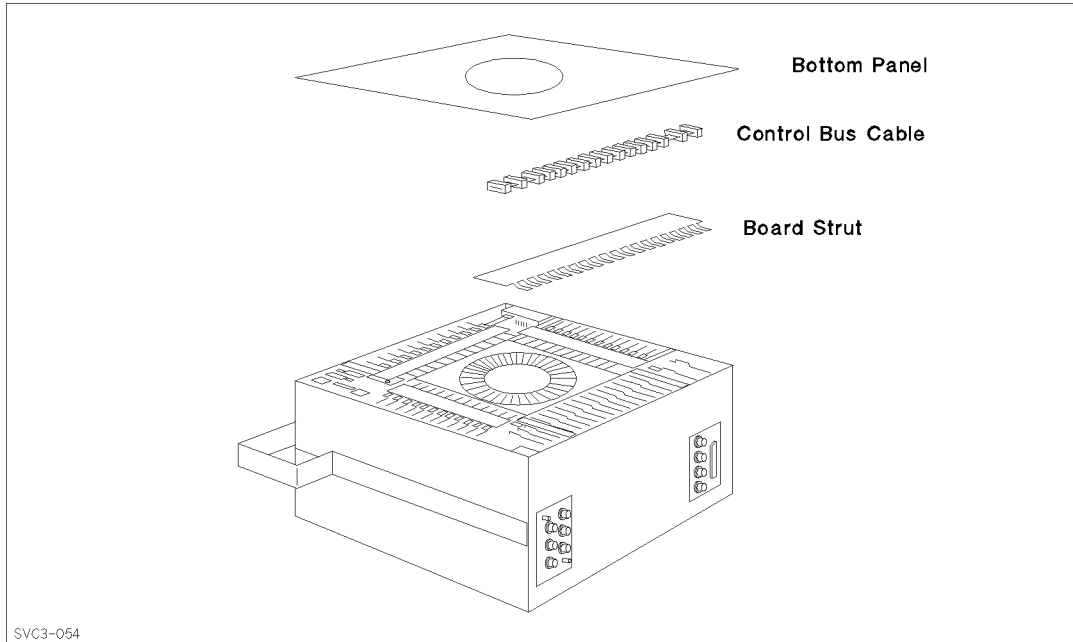

Figure 3-22. Removing the Bottom Panel of the SWM
1. Remove the bottom panel of the SWM (see Figure 3-22).
1. Remove the bottom panel of the 48-pin SWM (see Figure 3-22).
4. Remove the screws ① that secure the connector assembly to the SWM, and remove the connector assembly.